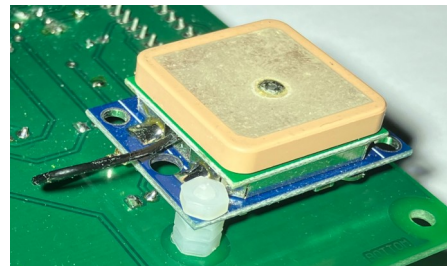

FIGURE 5. Installing the GPS module
- ☐ solder GPS antenna first to GPS board as shown in Fig. 5